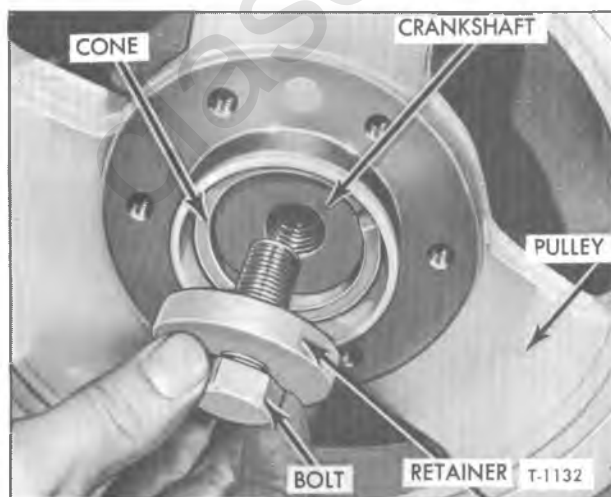

Figure 37—Crankshaft Pulley Retaining Parts (Engine with Cone Retainer Shown)
3. Remove installer, then referring to figure 37, locate cone (when used) at hub, and install retaining washer and bolt. Tighten retaining bolt with torque wrench to 95 to 105 foot-pounds torque on engines without cone-type retainer. If cone is used the correct torque is 180 to 200 foot-pounds.